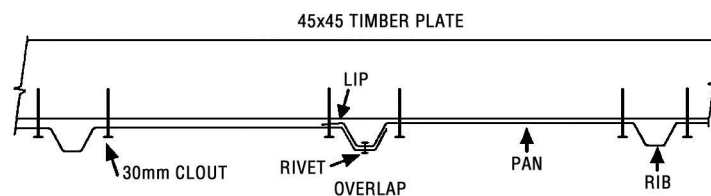

fig. 1
When fitting Gable End Sheets ensure they overlap correctly (**fig 1**).
Step 2: Back Wall: Position the first Wall Sheet with the LIP on the right hand side. Ensuring the LIP is flush with the side of the Studs and the top of the Wall Sheet is flush with the top of the Top Plate, tack in place. Position the next Wall Sheet with the LIP on the right hand side. Overlap as shown in (fig 1). Ensuring Wall Sheet is flush with top of Top Plate, tack in place. Repeat with remaining sheet.
- Step 2:** Where the Clear Roof Panel is to be positioned, nail a 45x45mm Bevelled Edge Support on each side of the Ridge Beam. (*fig. 1*)